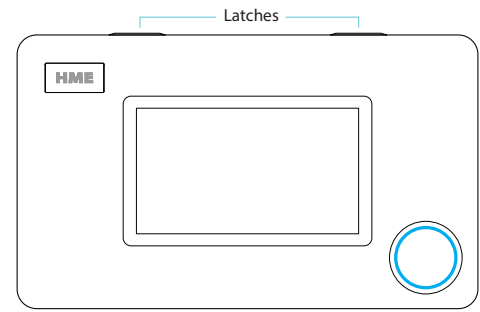

Fig. 2.2
3. There are two latches along the top side of the Base Station (see Fig. 2.2). Unlatch these to open the Base Station cover (the cover does not completely detach as it is hinged on the bottom side). Four mounting holes are visible, one at each corner through